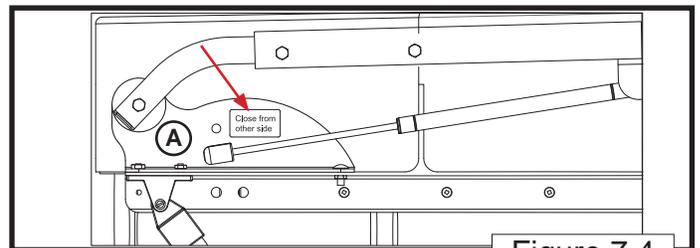

Figure 7.4
5. Place the orange sticker label(Located in Bag #1) that reads **"Close from other side"** on the Base Bracket (A), above the non-locking Gas Spring (Figure 7.4).